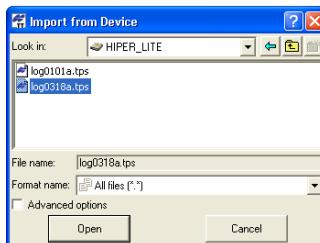

Figure 3-39. Select the TSV File to Convert and Import
- To import the file(s) from the controller to the current job and convert them to *.tsv files, set the corresponding file format in the *Format name* field and click **Open** (Figure 3-39).